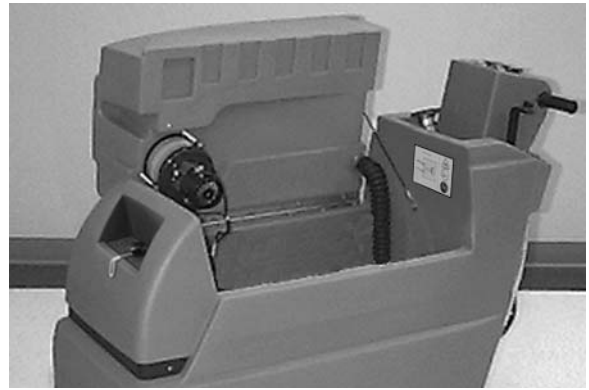

FIG. 1
2. Carefully hinge open recovery tank to access the battery compartment. Remove loose battery cables from the compartment (Figure 1).